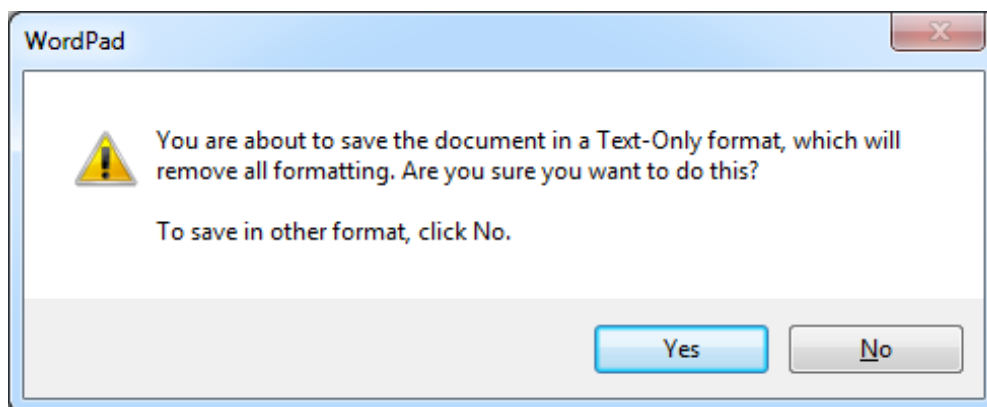

Figure 43 Confirm the setup for WordPad by clicking “Yes”.
6. After clicking “Save” the dialogue shown in figure 43 appears. Click “Yes” and the font for WordPad is defined. Now WordPad will by default use the font Courier, size 10 regular.